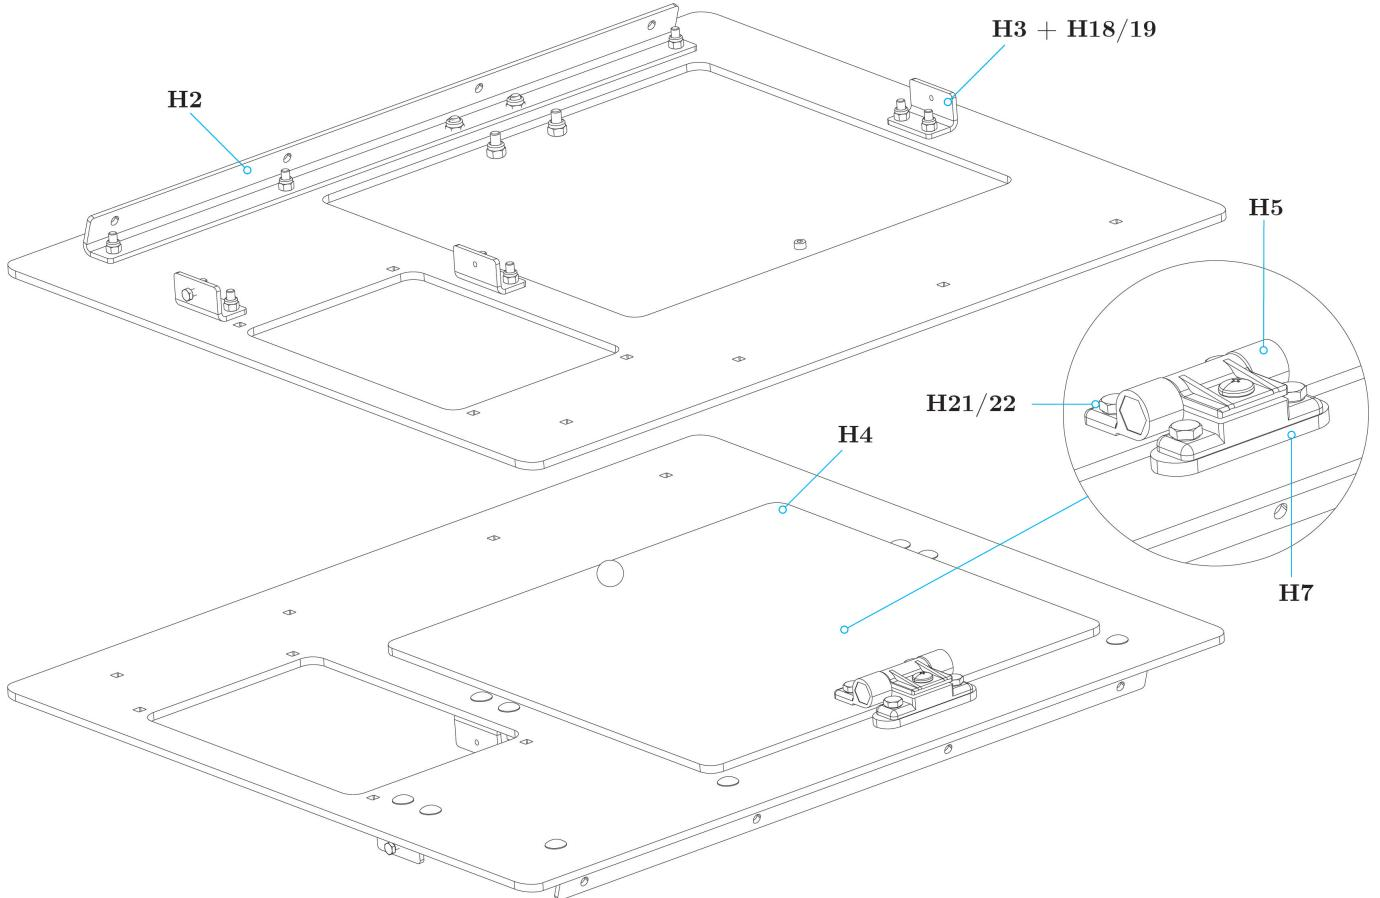

Figure 12: Overview of the Top Plate Assembly
1. Orientate the H1 Top Plate as illustrated in figure 12.
2. Position the H2 and the three H3 Connectors onto the plate and fasten them with 8x H18 bolts and H19 nuts. Make sure their orientation resembles figure 12.
5. Flip the Top Plate and position the H7 Riser between the Top Plate and the Hinge as illustrated in detailed view of figure 12.